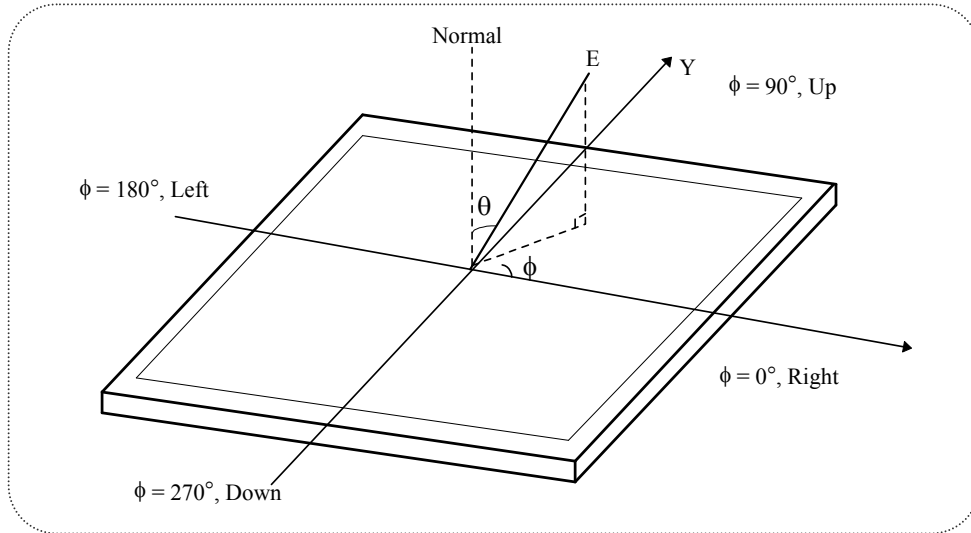

FIG. 7 Viewing angle
7. Viewing angle is the angle at which the contrast ratio is greater than 10. The angles are determined for the horizontal or x axis and the vertical or y axis with respect to the z axis which is normal to the LCD surface. For more information see FIG 7.